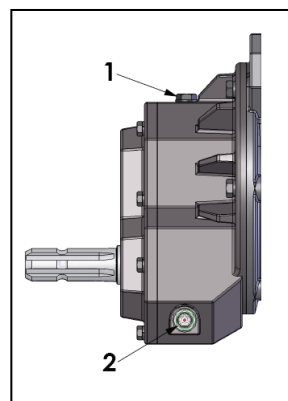

Figure 8
Vacuum pumps version PM ... WM: the overgear box is provided with an oil filling cap (1) in the top area of the overgear and an oil level cap (2), in the side area of the gearbox, which enables to check the level (figure 8). For correct lubrication, the oil must always be visible in the oil level. (2-figure 8).